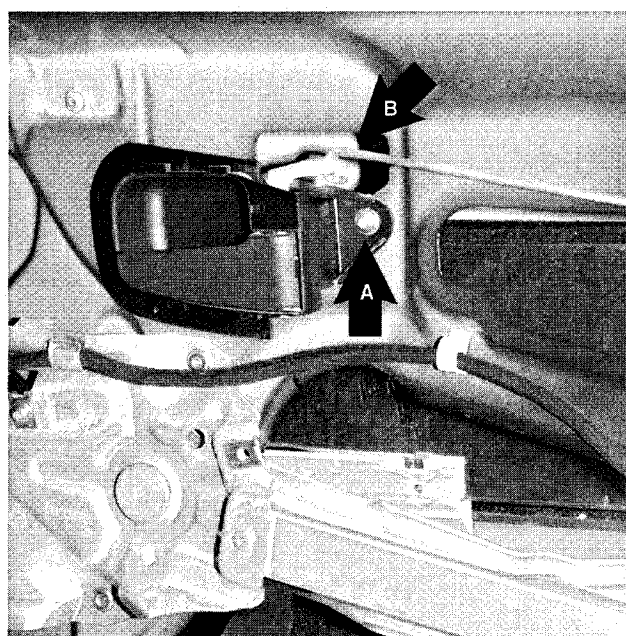

Fig. 8. Inside door handle retaining screw (A) Unhook linkage from handle at B.
3. Disconnect and remove inside door handle. See Fig. 8.